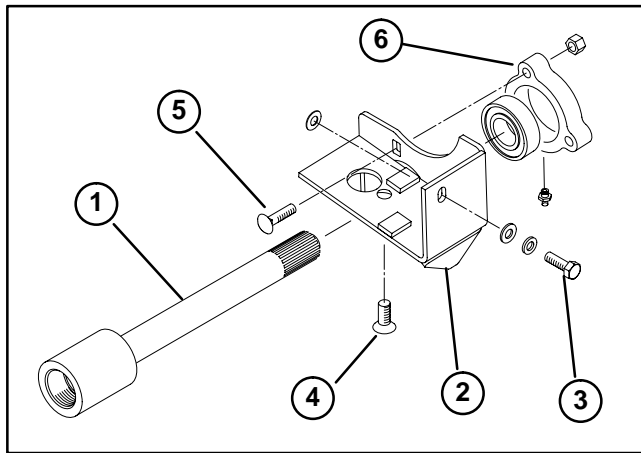

Figure 8
B. Slide traction shaft through bearing bracket, aligning the (2) bearing bracket mounting holes with the holes in side and bottom of hydrostatic (Fig. 8).
C. Mount side of bracket to hydrostat with a capscrew, lock washer, flat washer and 1 or 2 shims (Fig. 8).